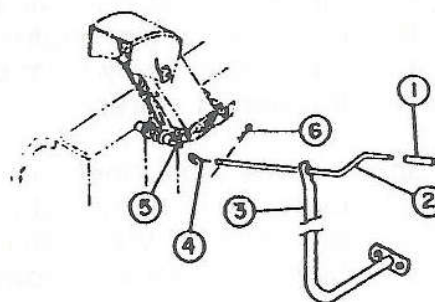

FIGURE 12
- g) Install 1/2 X 3" handle grip (fig.12, item 1) on chute rotation handle (item 2) and place handle through grommet in rotation support (item 3).
- g) Install hook (fig.12, item 4) on rotation worm (item 5). Insert hook in rotation handle and lock in place with a 2.5mm hair pin (item 6).